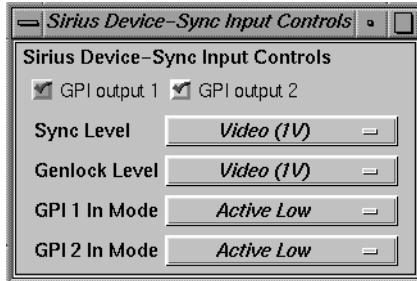

Figure C-16 Setting Genlock Voltage Level
5. To set the voltage level for the external sync source, select “Device Controls” in the *vcp* Pro menu, and then select “Synchronization Controls.” The Sirius Device-Sync Input Controls window appears, as shown in Figure C-16.